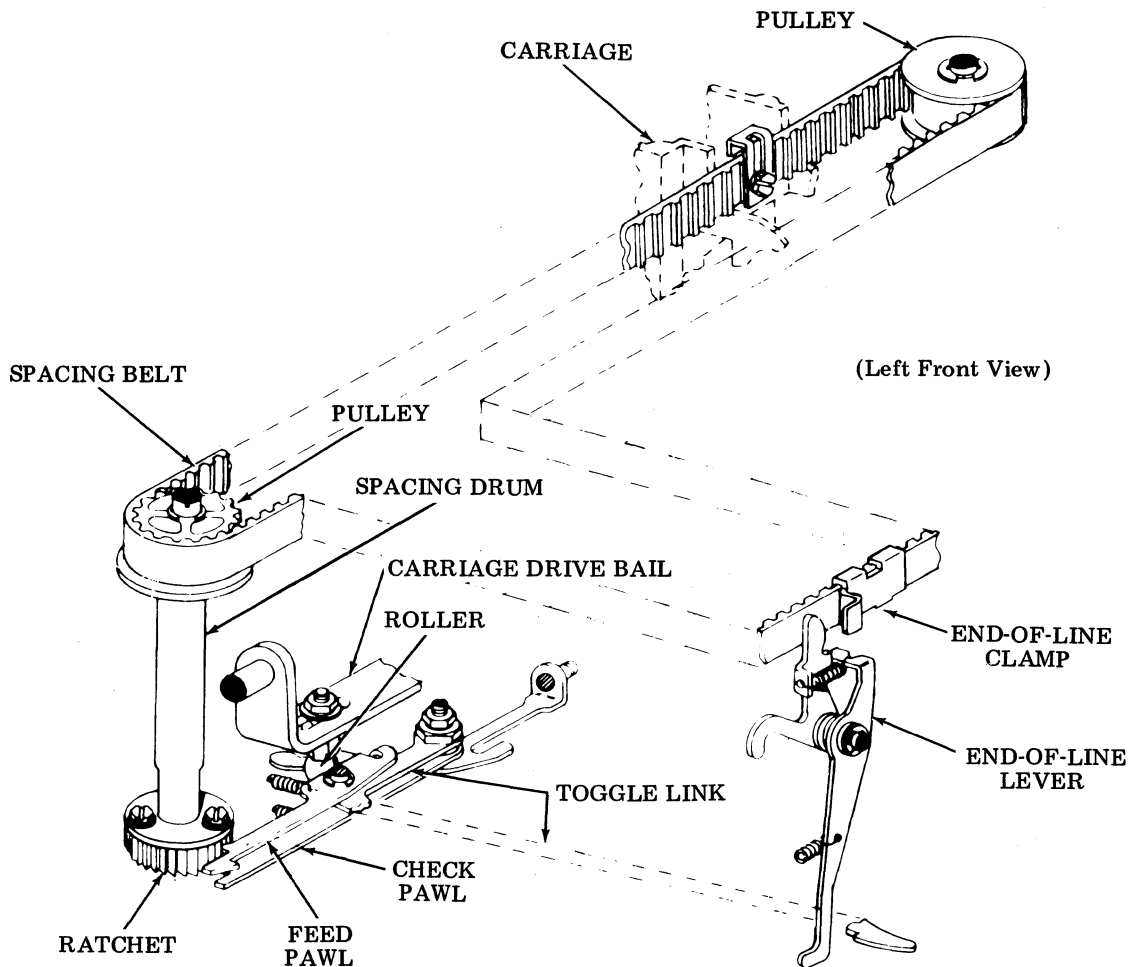

Figure 2 - 182056 Modification Kit for 12 Character-Per-Inch Spacing
2.08 The 182056 modification kit converts the Model 33 typing unit from the standard 10 characters to 12 characters-per-inch horizontal spacing (Figure 2).